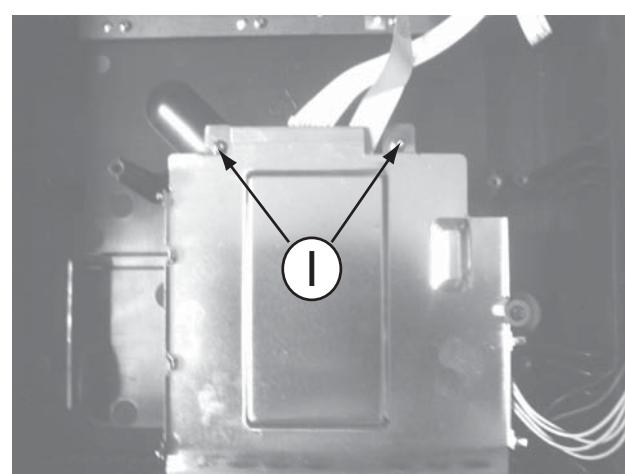

Figure 9
- 1) Loosen 2 screws " I " on the metal plate as shown in figure 9.